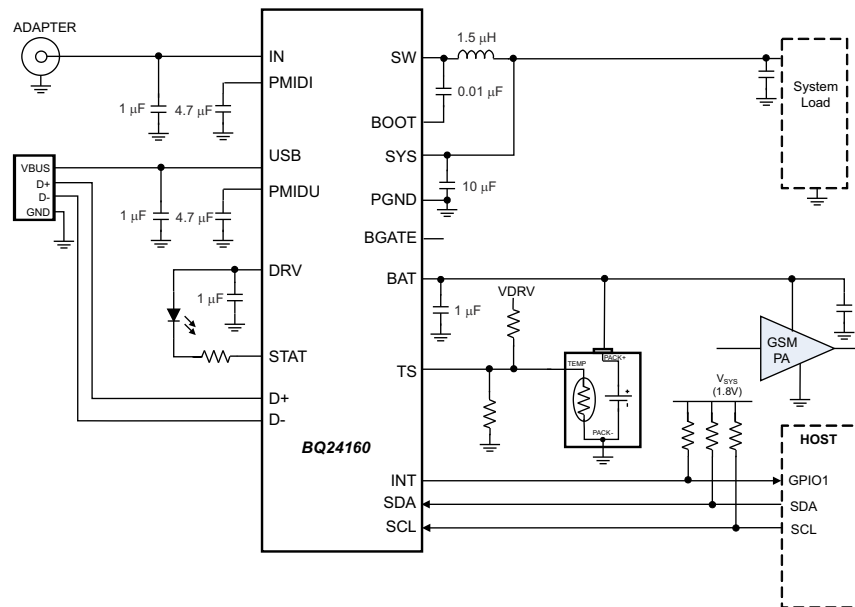
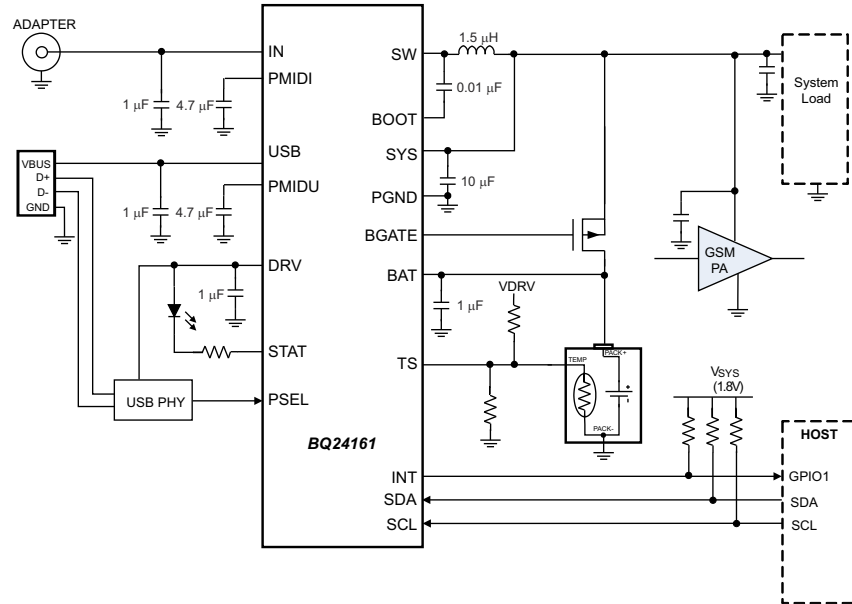

图 9-1. BQ24160, Shown with no External Discharge FET, PA Connected to Battery
图 9-2. BQ24161, Shown with External Discharge FET, PA Connected to System for GSM Call Support with a Deeply Discharged or No Battery
A typical application circuit using the BQ24160 with a smartphone's GSM power amplifier (PA) powered directly from the battery is shown in 图 9-1. A typical application circuit using the BQ24161 with a smartphone's GSM PA powered from the SYS rail, to allow for calls even with a deeply discharged battery, is shown in 图 9-2. Each circuit shows the minimum capacitance requirements for each pin and typical recommended inductance value of 1.5  $\mu$ H. The TS resistor divider for configuring the TS function for the battery's specific thermistor can be computed from equations 方程式 1 and 方程式 2. The resistor on STAT is sized per the LED current requirements. All other configuration settings for VINDPM, input current limit, charge current and charge voltage are made in EEPROM registers using I2C commands. Options for sizing the inductor outside the 1.5  $\mu$ H recommended value and additional SYS pin capacitance are explained in the next section.